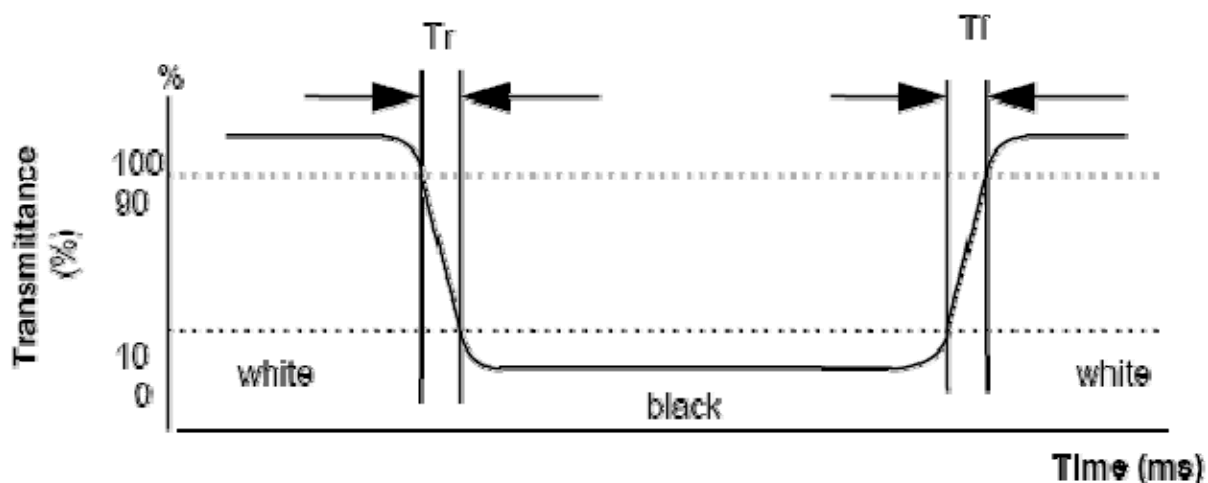

FIG. 2 The definition of Response Time
3. Response time is the time required for the display to transition from white to black (Rising Time, Tr) and from black to white (Falling Time, Tf). For additional information see FIG 2.